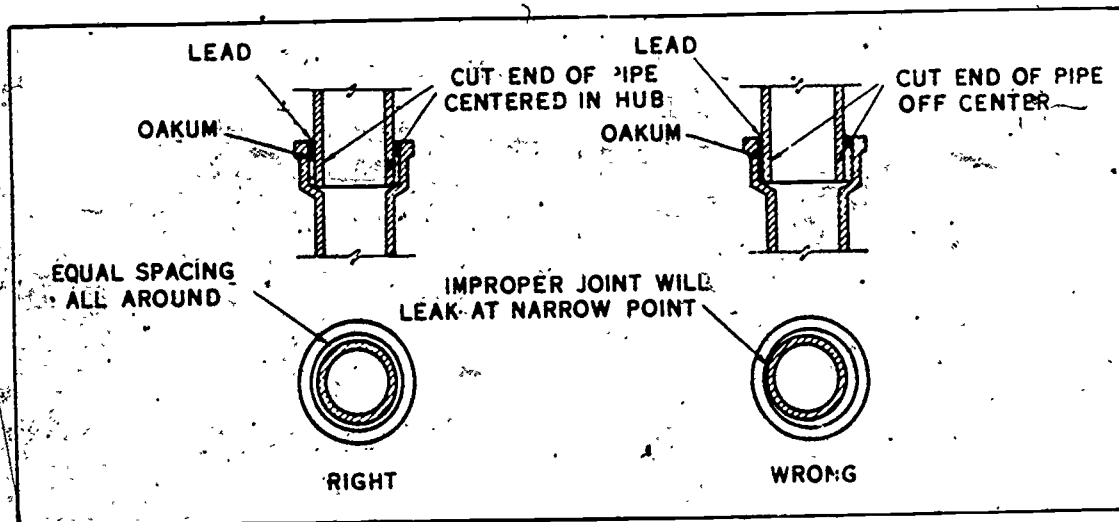

Figure 4-12. Centering a bell-and-spigot joint.
*Pouring vertical lead joints.* Joints in vertical piping are usually the easiest to make and require fewer tools than joints in horizontal piping. You do not need a joint runner to make a joint in vertical piping, because the rim of the bell forms an open receptacle for receiving the lead. Inspect the bell-and-spigot ends of the pipes to be calked to make sure they are free of moisture. If the ends are wet, heat them with a torch until they are dry. Moisture in the joint will cause molten lead to spatter when it is poured, and you could burn yourself. Place the spigot end of the pipe into the bell of the pipe below. Aline the pipe so that an equal space between the pipe and the bell is maintained around the circumference of the joint, as shown in figure 4-12. A joint that is not properly centered is likely to leak on the side that has the least amount of oakum and lead.